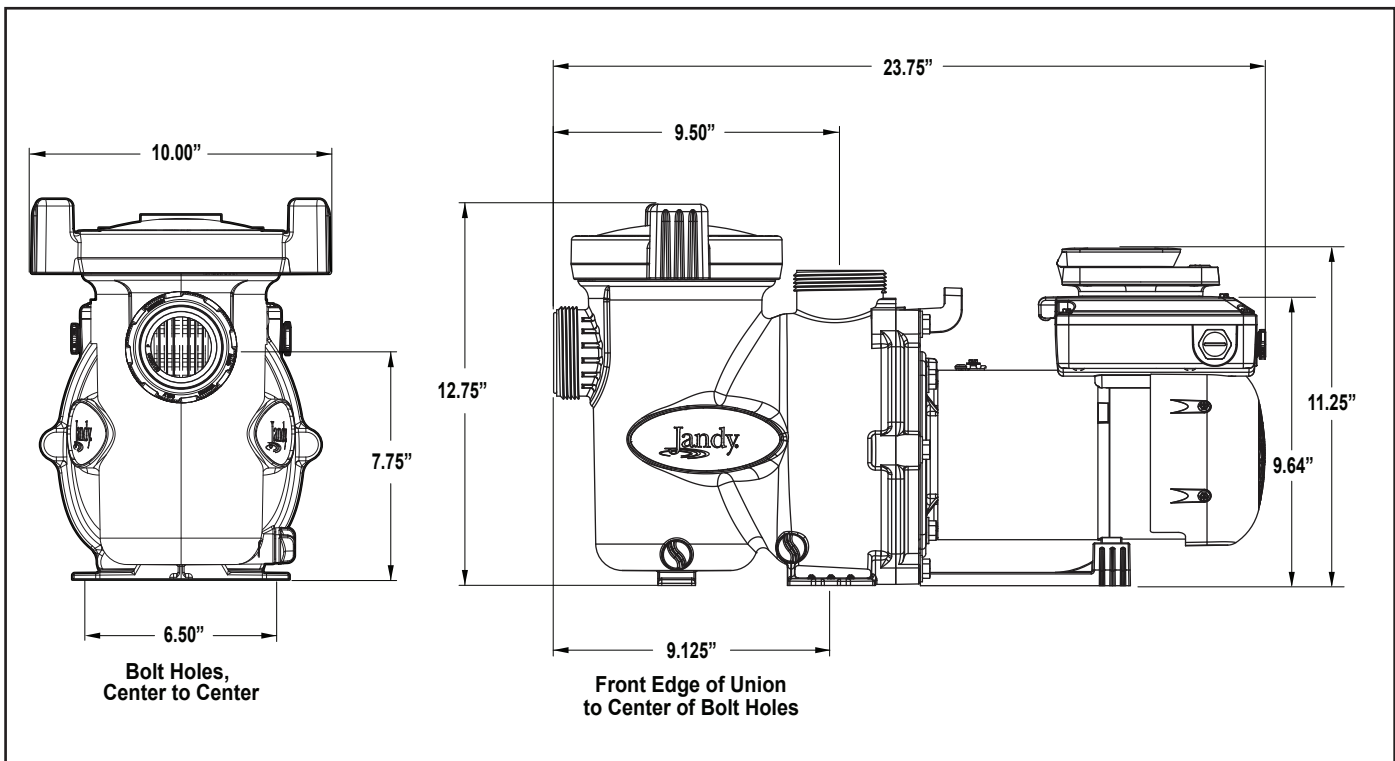

Figure 1. Variable-Speed Pump Dimensions
**Number of Suction Outlets Per Pump** - Provide at least two (2) hydraulically-balanced suction outlets, with covers, as suction outlets for each circulating pump suction line. The centers of the suction outlets (suction outlets) on any one (1) suction line must be at least three (3) feet apart, center to center. See Figure 1.
The system **must** be built to include at least two (2) suction outlets (drains) connected to the pump whenever the pump is running. However, if two (2) suction outlets run into a single suction line, the single suction line may be equipped with a valve that will shut off both suction outlets from the pump. The system shall be constructed such that it shall not allow for separate or independent shutoff or isolation of each drain. See Figure 1.